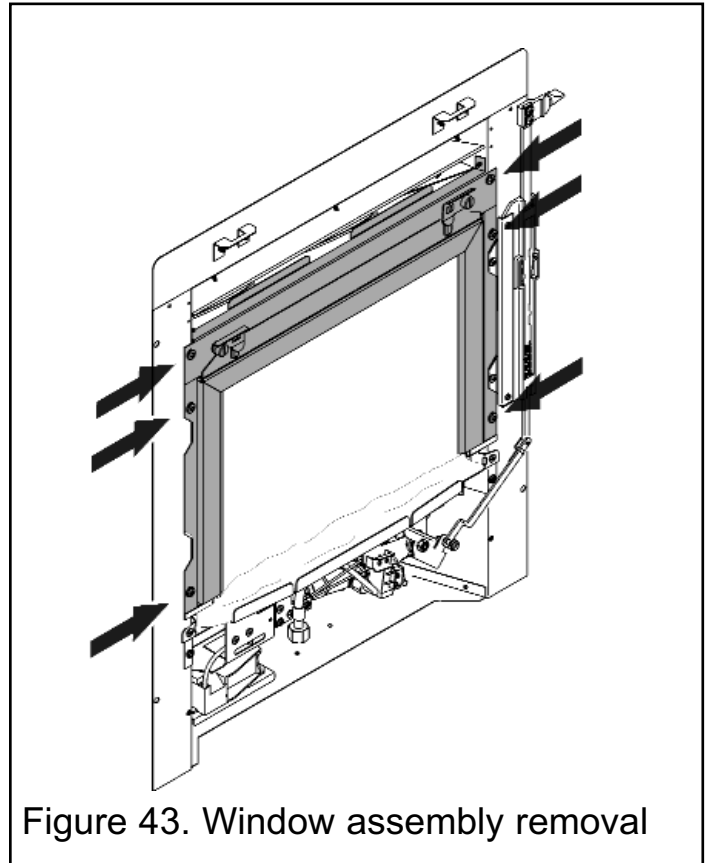

Figure 43. Window assembly removal
2. Unscrew and remove the six screws that secure the window mounting frame and window assembly. Remove and place away from the work area (See figure 43).